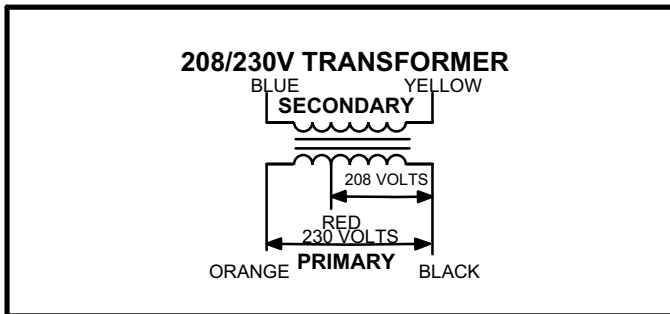

FIGURE 3
All use a single line voltage to 24VAC transformer mounted in the control box. Transformer supplies power to control circuits in the unit. The transformer is rated at 70VA and is protected by a 3.5 amp circuit breaker (CB8). The 208/230 (Y) voltage transformers use primary voltage taps as shown in figure 3, while 460 (G) and 575 (J) voltage transformers use a single primary voltage tap.